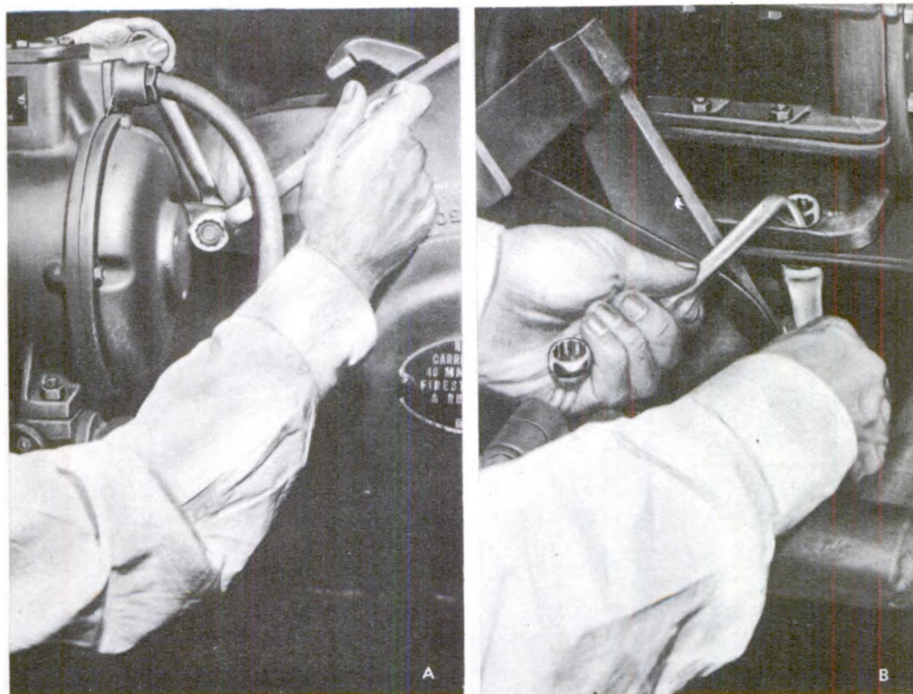

Figure 197 – Disconnecting Oil Gear From Carriage
(8) Remove the four bolts securing oil gear to carriage (A, fig. 197) and the single bolt at rear of induction motor (B, fig. 197).
(9) Remove the oil gear by pulling it forward from the front of
(5) Slide gear into position to engage the drive shaft. Be careful not to damage the drive shaft or coupling mechanism. Be sure to replace the rubber seal if it has been removed from the oil gear coupling, pulling seal over coupling towards the oil gear.
(6) Insert the five bolts that fasten the oil gear to the carriage. Start the nuts but do not tighten them. (Refer to fig. 197)